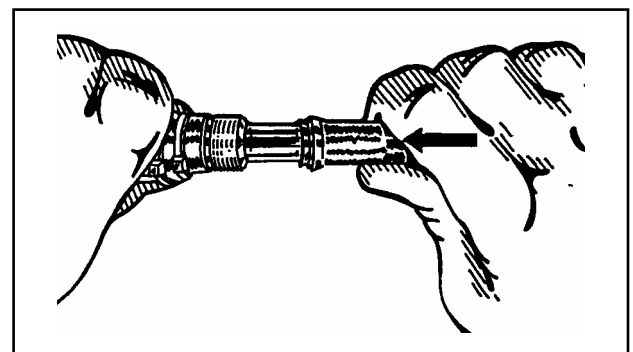

Figure 7
3. Irrigate the junction with fluid and press the tubing connector into the cannula as illustrated. **(Fig.7)**